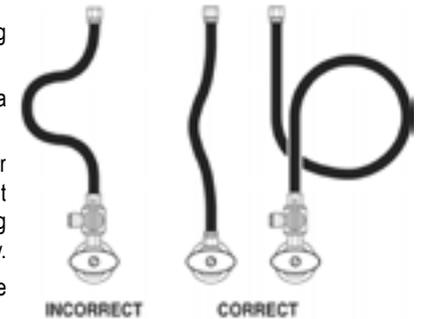

Figure 5: Flexible Hose Positions
**Caution:** A longer riser tube assembly will be required if a gentle loop cannot be made. (See Figure 5).